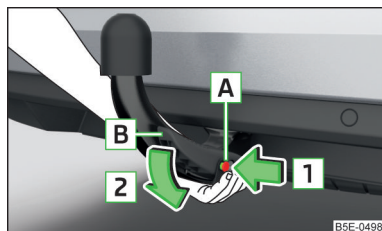

Fig. 297
- Grasp the ball rod from **below** » Fig. 297.